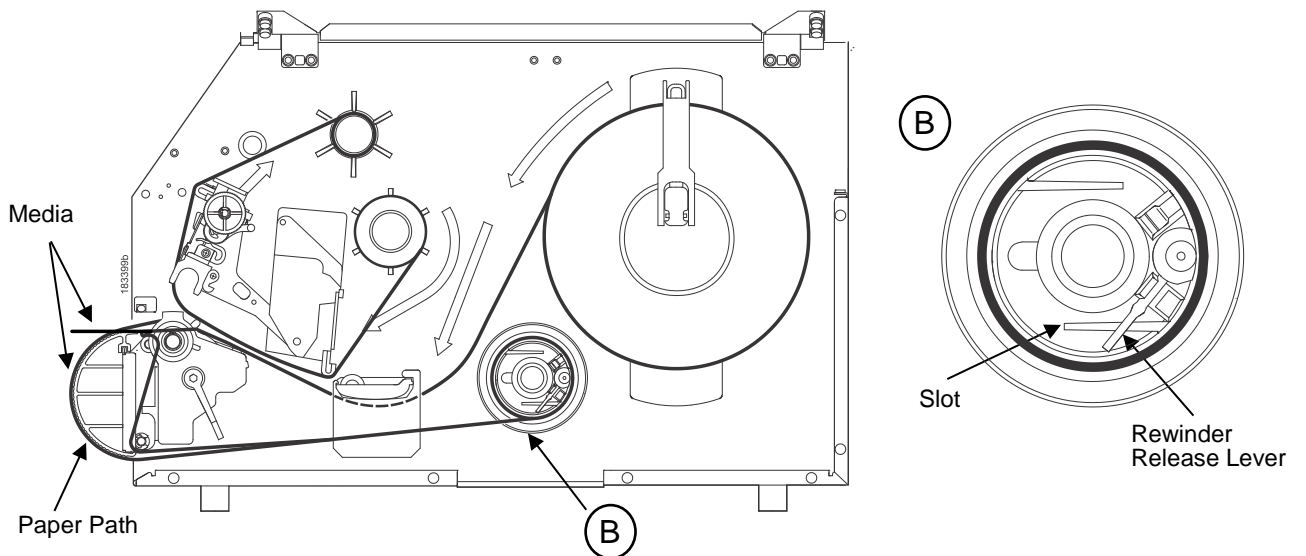

Figure 2 Loading Media
1. To load media, refer to *Figure 2* and follow “Loading Media” steps 1 through 9 on page 30.
8. Complete the media routing as shown in *Figure 2*.